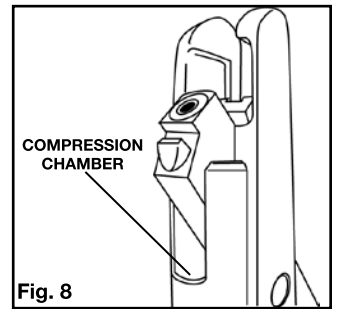

Fig. 8
- To ensure that your air rifle maintains uniform power, it is important that you apply a drop of Crosman RMCoil every few hundred shots into the compression chamber. (Fig. 8) The external metal parts should be cleaned with a cloth that has RMCoil on it.